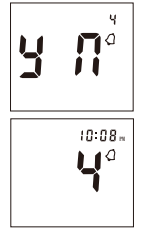

Fig.4
10. To set the fourth alarm, press the **M** button (y). If you press **S** button (n), it will move to health management alarm setting (step 11). To change the hour, press **S** button. To enter the hour and move on to change the minutes, press **M** button. To change the minutes, press **S** button. To enter the minutes and move on to health management "HI alarm setting" press the **M** button. (Fig.4)